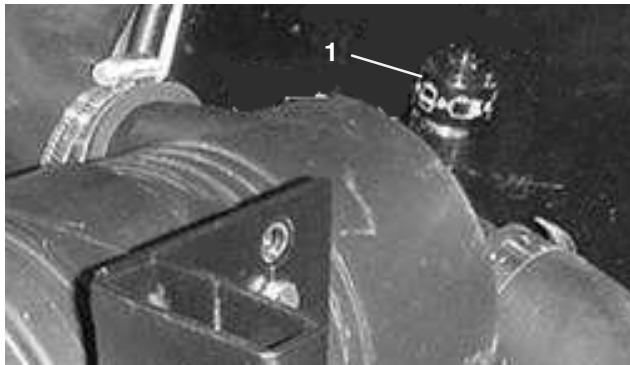

Figure 34
- Service the air cleaner filter when air cleaner indicator (Fig. 34) shows red or every 400 hours (more frequently in extreme dusty or dirty conditions). Do not over service air filter.
6. Reset indicator (Fig. 34) if showing red.